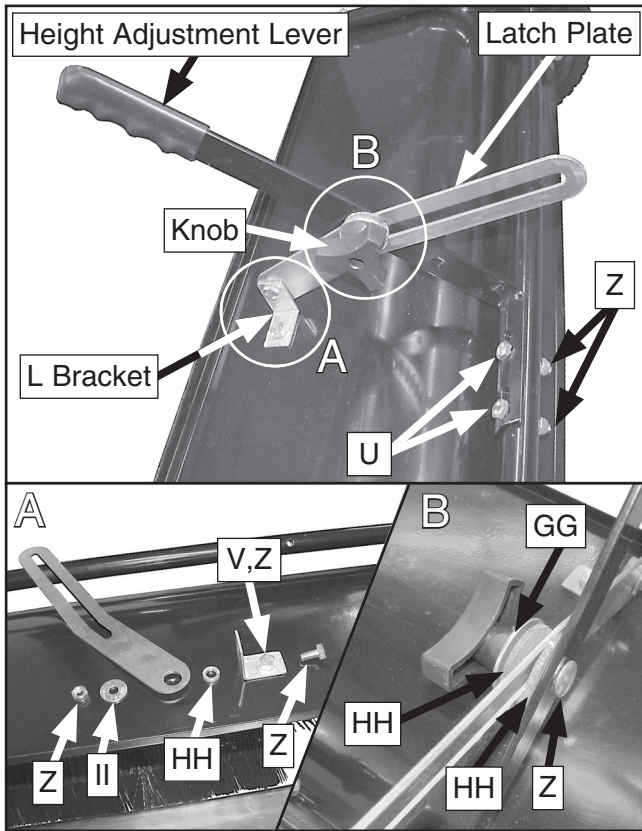

Figure 9. Height adjustment lever.
- Assemble the height adjustment lever, as shown in **Figure 9**. Refer to the inventory figures on **Page 2** for hardware identification.